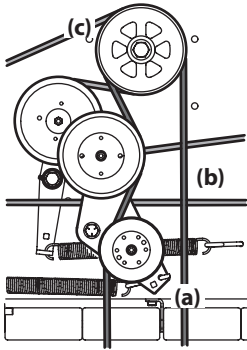

Figure 41
- Using a 1/2" drive in the idler pulley bracket (a), turn the wrench towards the right of the mower and slide the PTO belt (b) off the PTO pulley (c). See Figure 41.